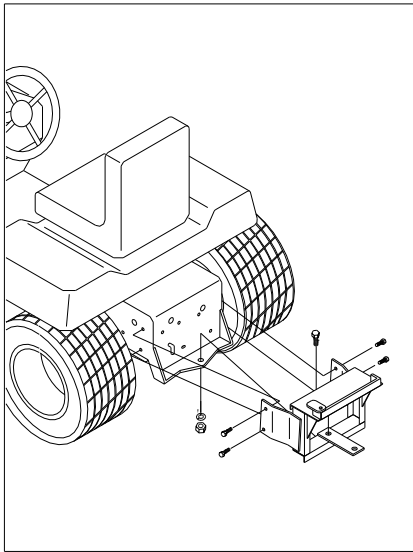

Fig. 1
1. Mount hitch (26) to tractor. Each different tractor has its own specific hitch so the look and method of attachment may be slightly different than pictured, but the hitch should always be mounted with the lip upward. Many come with specific instructions in the box with the hitch. **(Fig 1)**